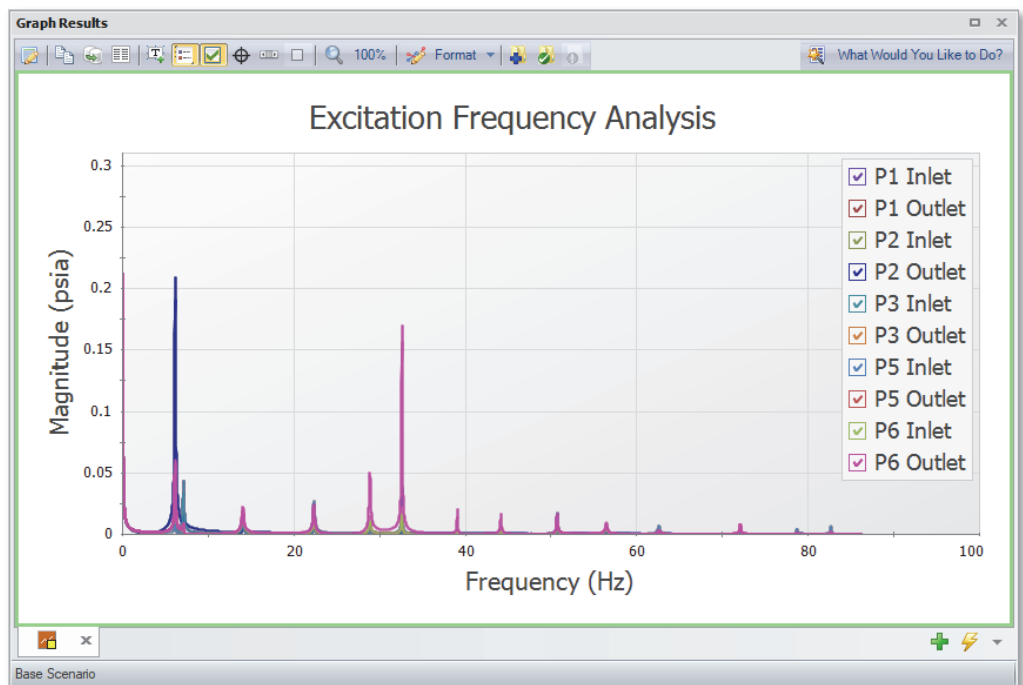

Figure 6.15 Excitation Frequency Analysis graph
4. Click Generate. The resulting graph (shown in Figure 6.15) represents the frequencies that are excited by the pulse defined in the Pulsation Setup window
From the graph in Figure 6.15, we see that there are several frequencies that produce a large pressure magnitude. Points on the plot with a large response magnitude are easily identified by finding local maxima on the graph. These maxima are the acoustic frequencies that will most excite the system at the selected stations.
Note that the graph in Figure 6.15 can quickly be changed to display the magnitude on a logarithmic scale in order to allow for easier viewing of the magnitude behavior changes with a changing frequency. To view the Excitation Frequency Analysis graph with the magnitude displayed on a logarithmic scale, generate the frequency graph as discussed above. Right-click on either axis and select the box next to Logarithmic.